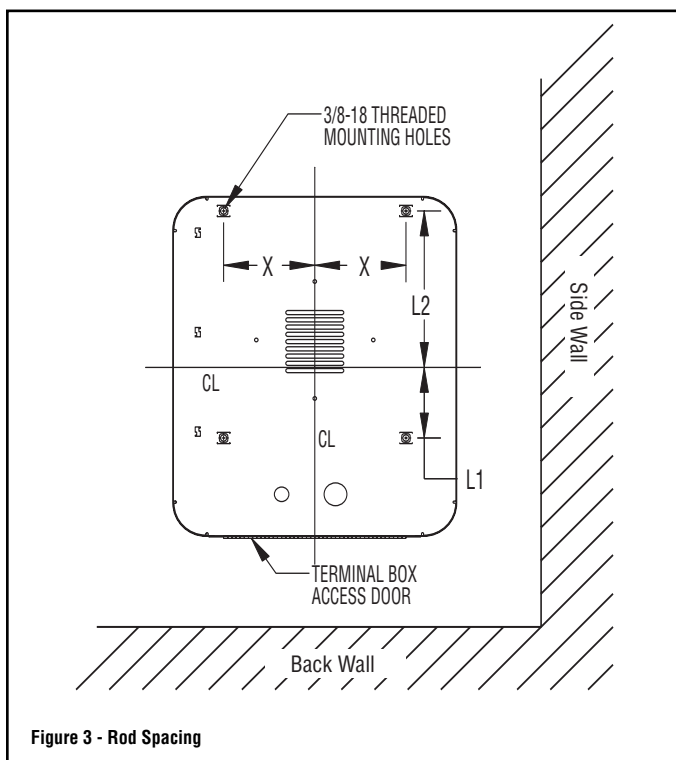

Figure 3 - Rod Spacing
- It is recommended that the heater only be used with ceiling heights of 12 feet or greater. Minimum spacing to ceiling is 6 inches, use 3/8-18” thread stock (supplied by others) as shown in Figure 3.
- The heater can be rod mounted to the ceiling by installing four (4) threaded mounting rods in the threaded holes located on the top of the heater as shown in Figure 3. (Refer to Table C for mounting rod thread size.)
5. The bottom access door is hinged. There are two screws that must be removed to gain access (Figure 3).